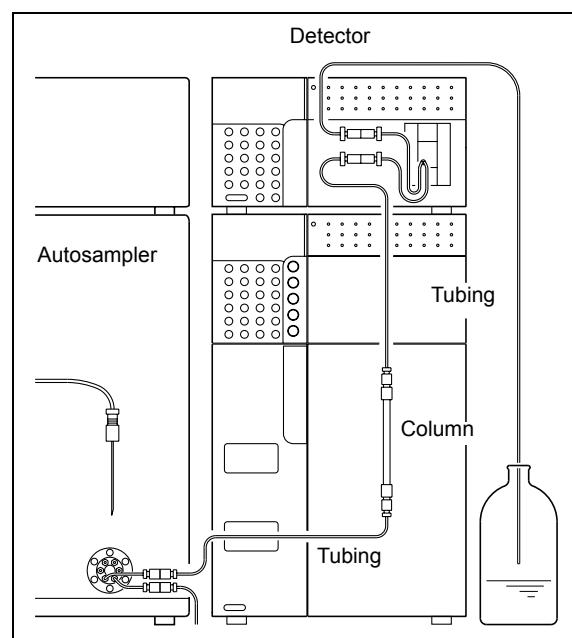

Fig. 7.11
- 4** When cleaning is finished, pour mobile phase (mixture of water and methanol (3/2, (v/v)) into the reservoir, and reconnect the column with the LC system (Fig. 7.11).